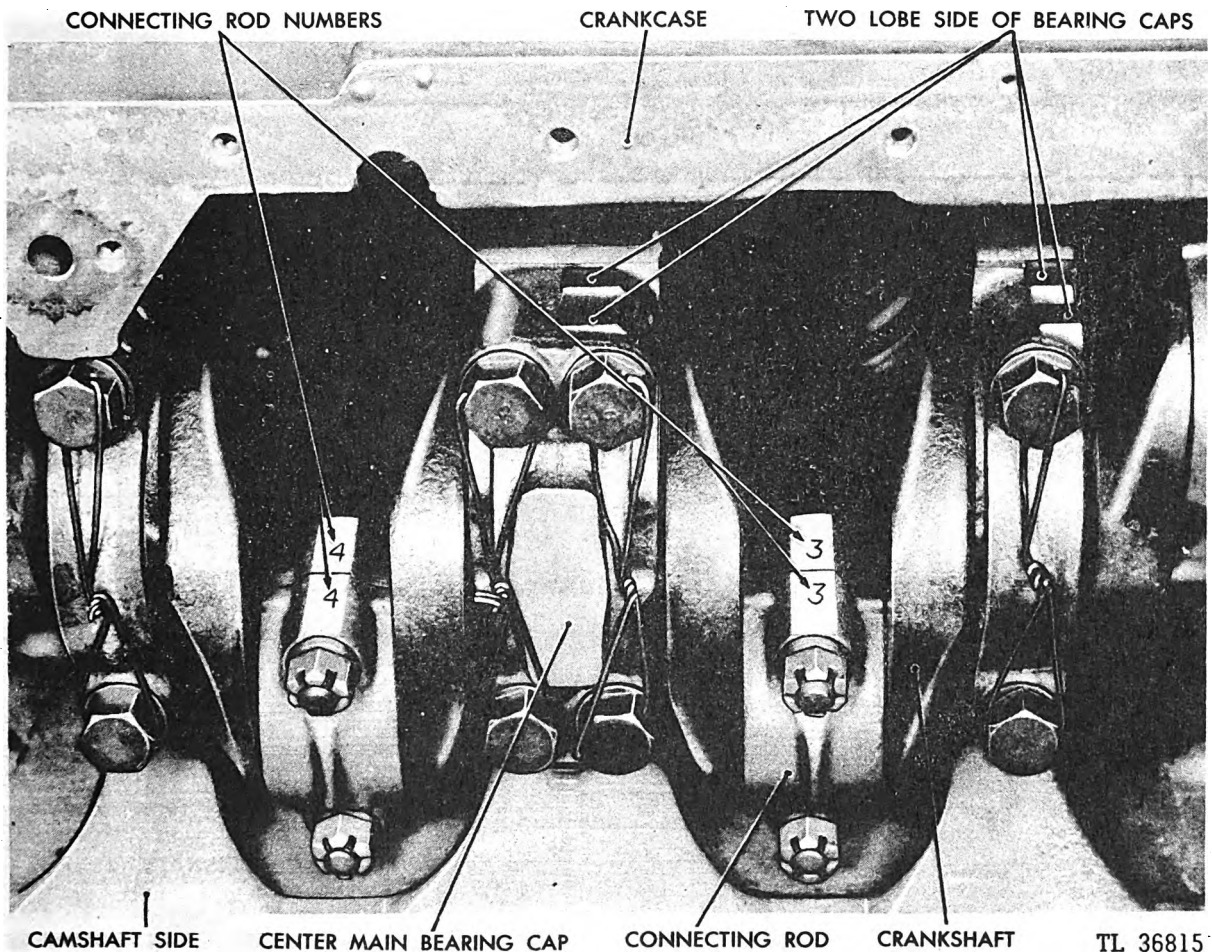
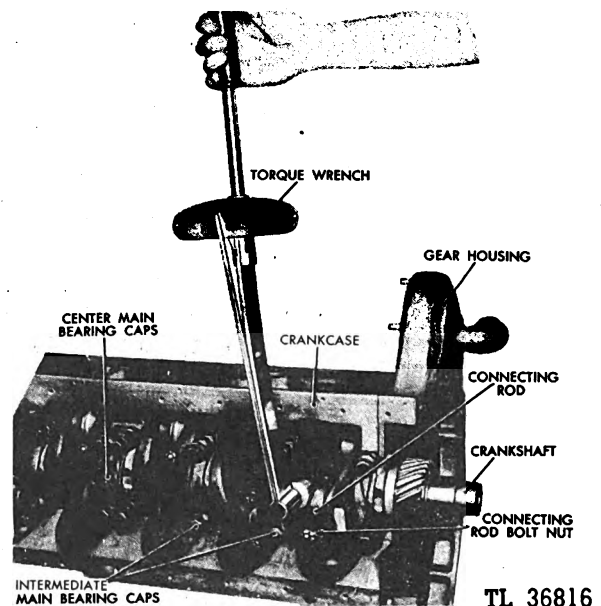

Fig. 163. Connecting Rod Numbers
Fig. 164. "Torqueing" Connecting Rod Capscrews
**NOTE:** The piston and connecting rod assembly should be fitted into the proper cylinder, making certain that No. 1 piston is in No. 1 cylinder with the designating number facing the right side of the engine (opposite of the camshaft), and so on for each respective piston and cylinder. (See Figure 163.) With the handle of a hammer, lightly tap the piston and connecting rod assembly into the cylinder sleeve,
(3) Install the connecting rod cap and make sure that the number on the cap corresponds and lines up with the number on the connecting rod. (See Figure 163.) The caps are not interchangeable or reversible. Tighten each cap separately with a torque wrench. The torque should be between 95 to 105 foot pounds. (See Figure 164.) First torque each nut to its lowest value and then check to see